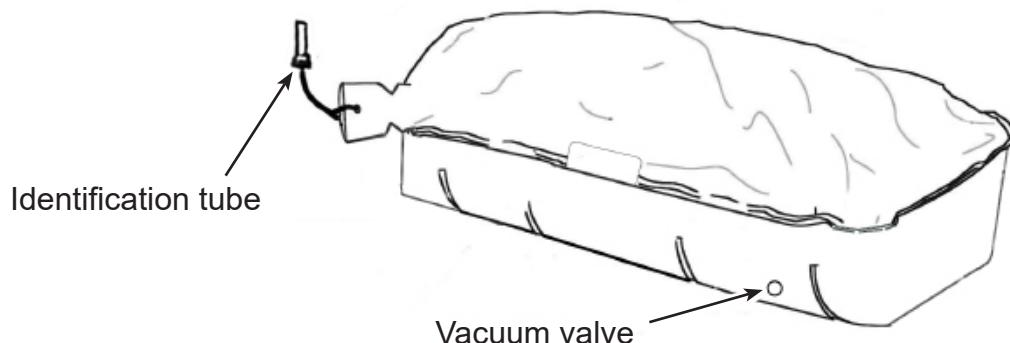

FIGURE 210
- 4.2.7 Remove the identification tube from the painter attachment hole on the H-Pack. Refer to **Figure 210**.
- 4.2.8 Remove the vacuum valve nuts at the front of the container. Refer to **Figure 210**.